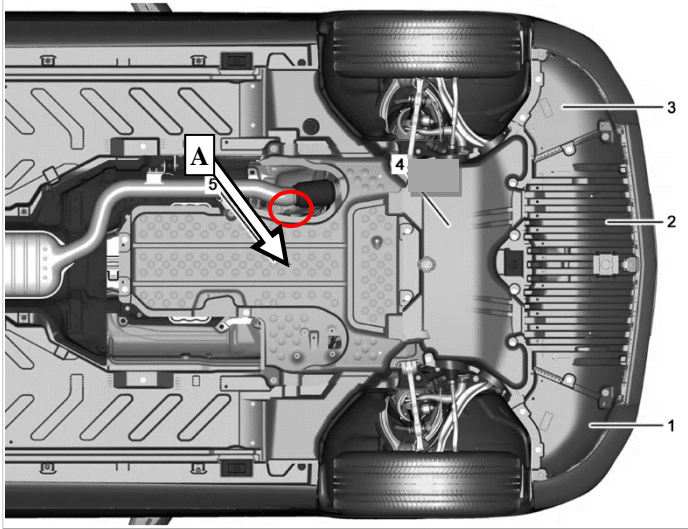

Figure 1
1. Remove rear engine compartment lining (A, Figure 1).